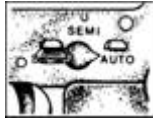

Figure 3. Selector lever in AUTO position.
3. Check an M16A1 with the selector lever in the AUTO position (Figure 3).